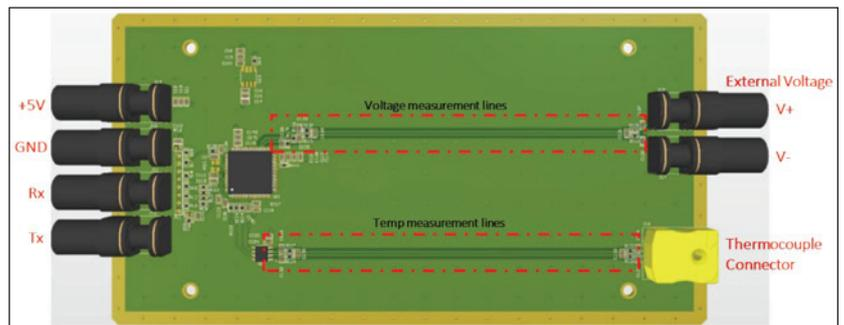

Figure 6: PCB with the analog signals on the top layer (variants 1, 2, 5, 6)
It should be noted that a low object thermal conductivity results in lower rates of heat transfer into the skin and, therefore in a slower decrease in the object's internal temperature. For example, in the plastic circular object cases shown in Figure 6, the low thermal conductivity of the plastic limits the heat transfer rate, and the curves fall on top of each other for all objects with thickness larger than 2 mm. In all these
Figure 6: Computed isolines of 600 min CEM43°C for circular contact areas associated with metal (M), ceramic (C), and plastic (P) 5 mm diameter objects of varying thicknesses (T)
Figure 7 shows the isolines of 600 min CEM43°C for elongated contact areas with a width of 5 mm and thicknesses of 1 mm, 3 mm, 5 mm, 10 mm, and 100 mm. The trends are similar to those seen in Figure 2 and in Figure 6.
Figure 6 shows the PCB with analog traces on the top layer. This configuration was used in variants 1, 2, 5, and 6.